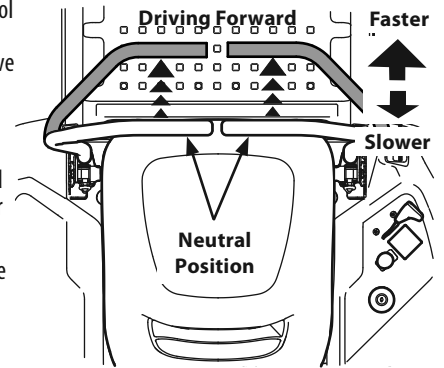

Figure 19
1. Slowly and evenly move both lapbar drive control levers forward. The tractor will start to move forward. See Figure 19.